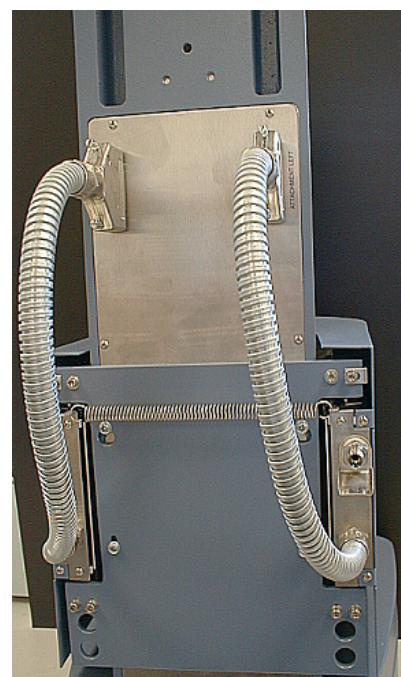

Figure 5.17
9. Connect the two cables on the ETC to the attachment connectors on the rheometer as shown in Figure 5.17.